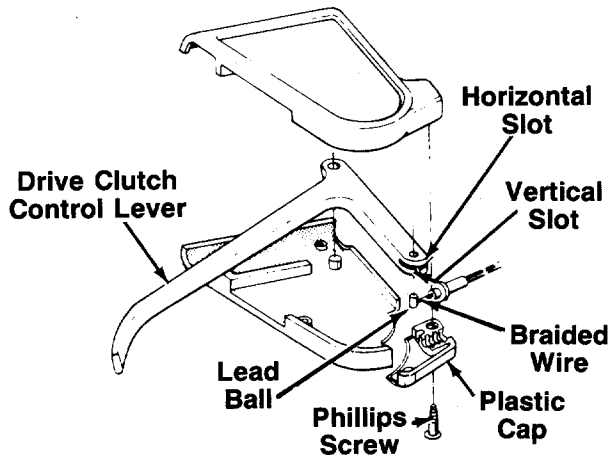

FIGURE 10.
2. Slide the braided wire around in the horizontal slot. See figure 10.
4. Secure the plastic cap to the clutch control housing using the two Phillips head screws. See figure 10. ←